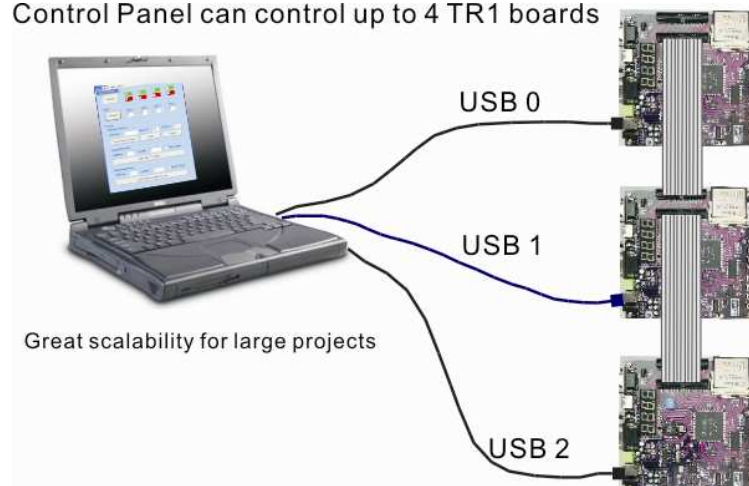

Figure 6.3. TREX Control Panel can control up to 4 TREX C1 boards
4. Click Open > Open USB Port0 (TREX Control Panel Application will list all the USB ports that connect to TREX boards . TREX Control Panel can control up to 4 TREX boards using the USB links). Figure 6.3 shows the concept of how to connect multiple TREX boards. **Note that The Control Panel will occupy the USB port until you close the port – you cannot use Quartus II to download unless you close the USB port.**